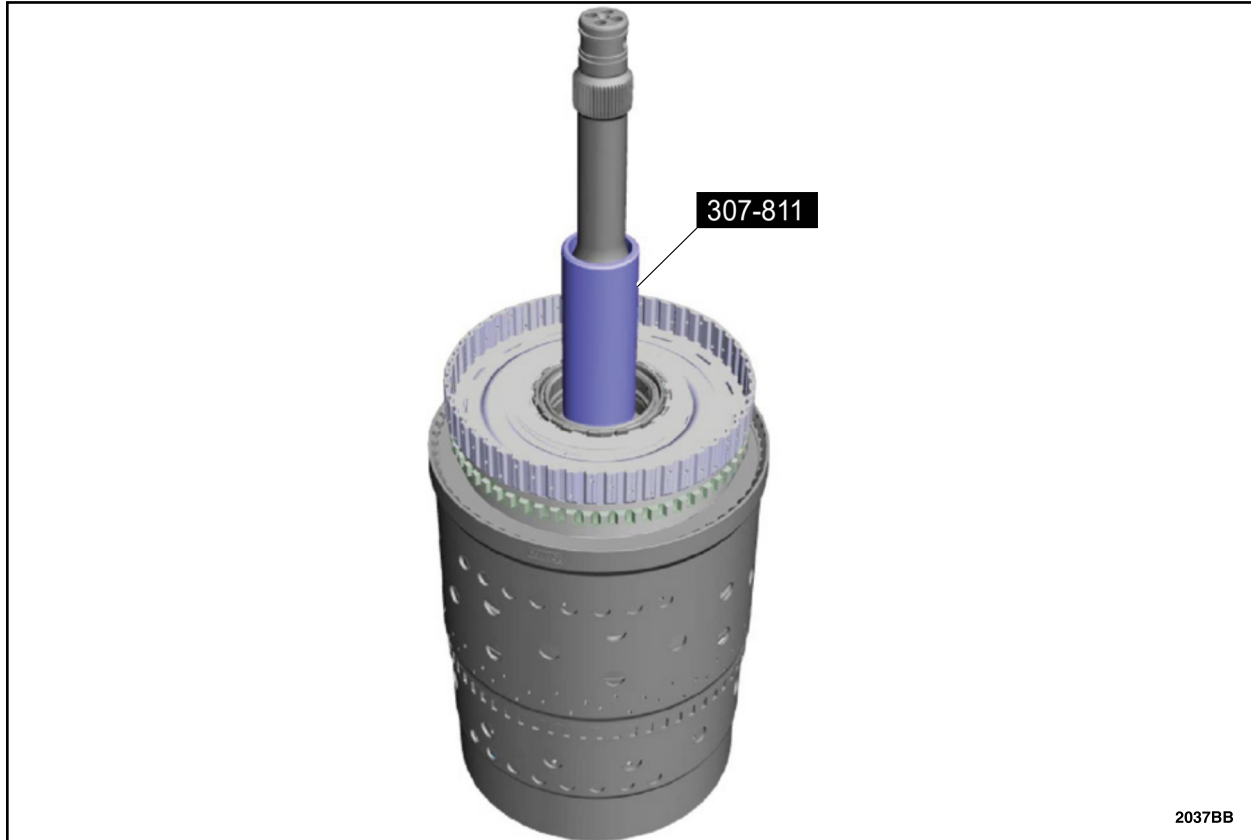

FIGURE 20
23. Install special tool 307-811 to size the 7 Teflon® seals to the input shaft. See Figure 20.